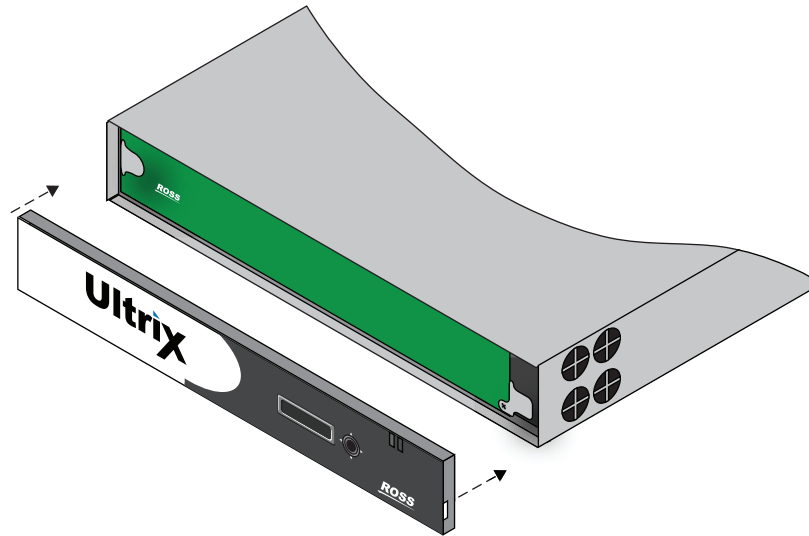

Figure 6 Front Panel — Aligning the Door to the Chassis
2. Orient the Micro SD card so that the printed side faces the fan and the print is upside down. Refer to **Figure 6**.
1. Align the door to the front of the router, ensuring that the door is oriented upright, the corner with the Ultrix logo is in your left hand, and the corner with the Ross logo is in your right hand. Refer to **Figure 6**.